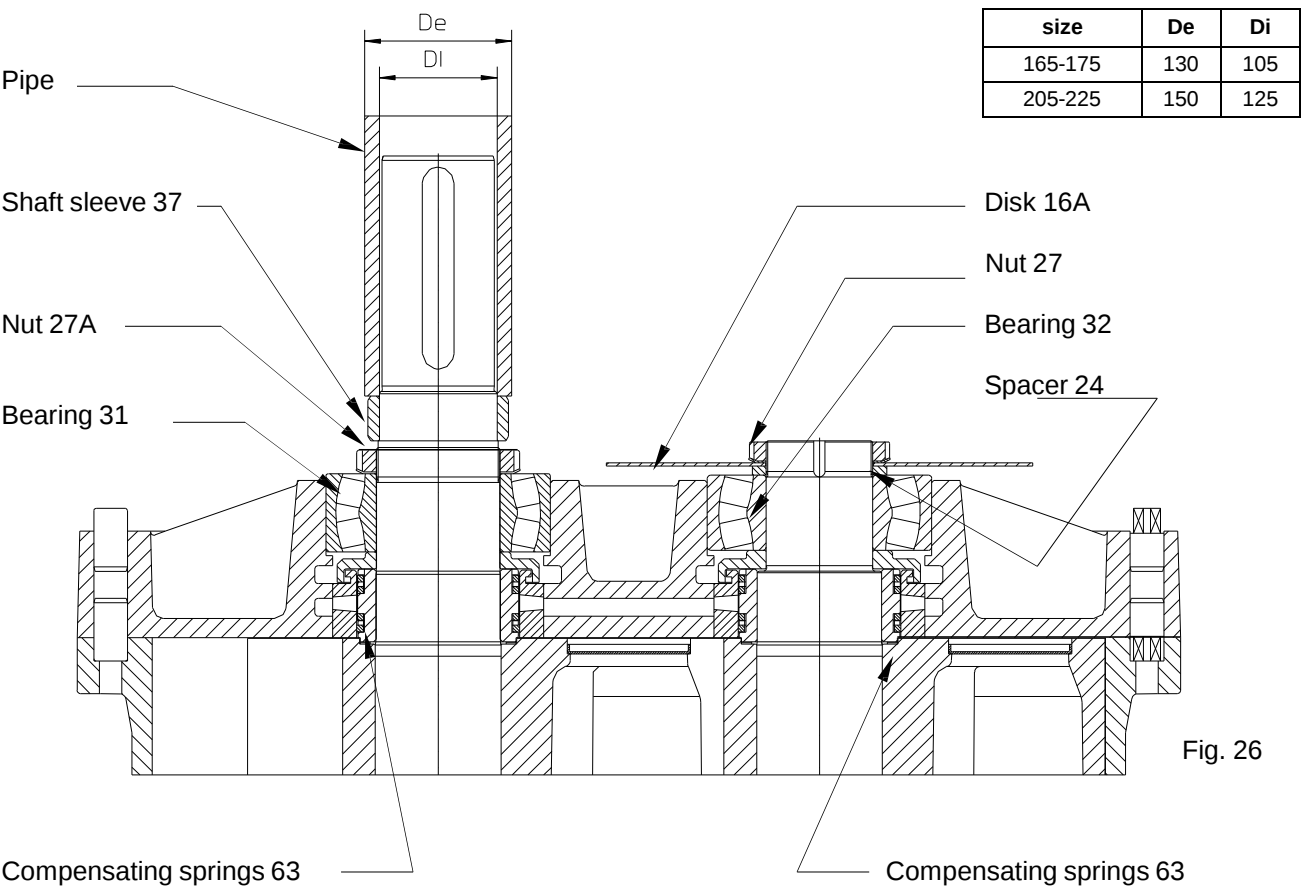

Fig. 26
- Insert the shaft sleeve Pos. 37 as indicated in figure 26